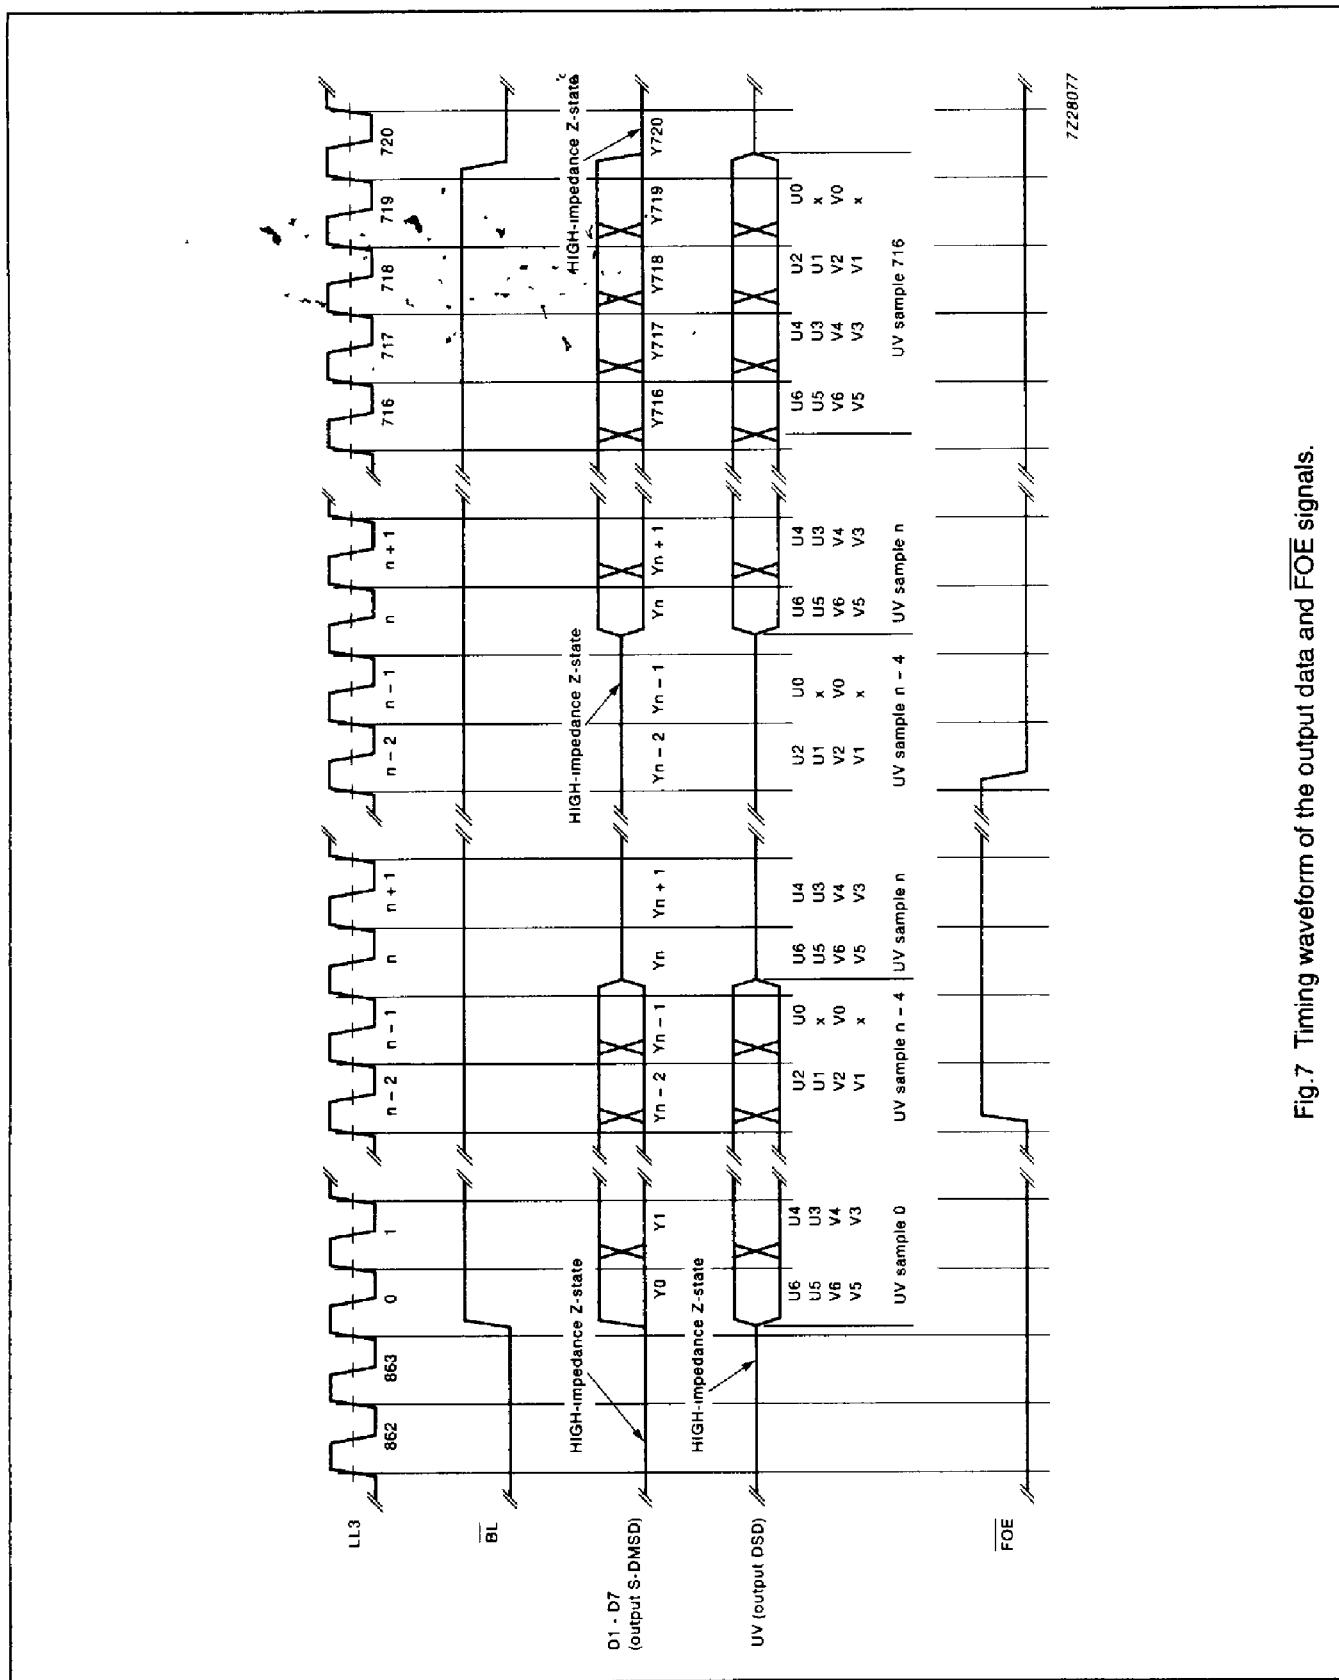

Fig.7 Timing waveform of the output data and \overline{FOE} signals.
synchronization data lines (HS and VS) or the blanking data line (BL), see Fig.7.